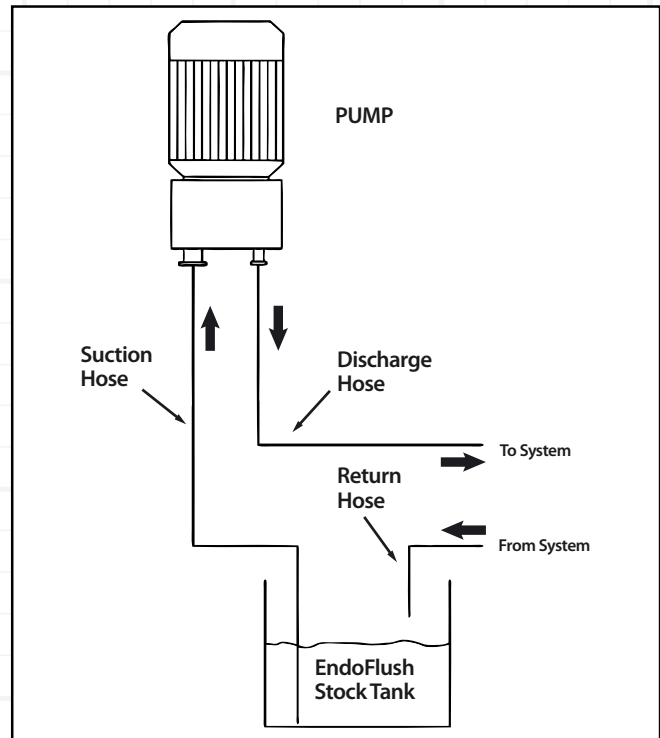

FIG 1. FLUSHING PUMP ARRANGEMENT
1. Connect the pump and tank to the condensing coil (for example) as indicated in Fig. 1. If using conventional refrigeration hoses ensure that all the Schrader valves have been removed from the ends of the hoses.